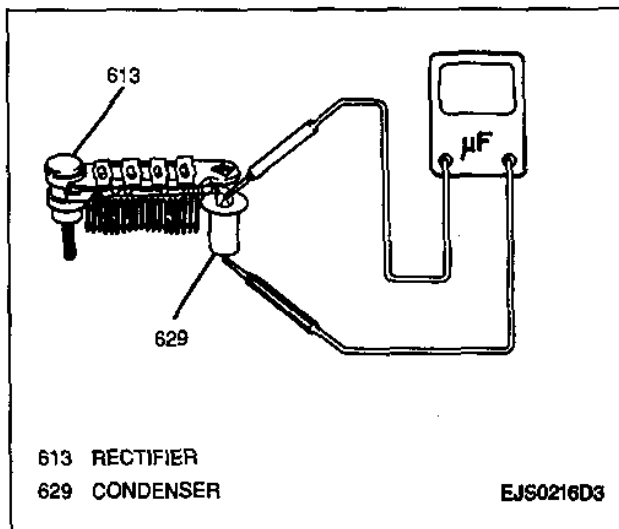

Figure 21—Measuring Condenser Capacity
9. Condenser capacity using a digital capacitor meter (Figure 21). If condenser capacity is not 0.5°F, replace the rectifier.